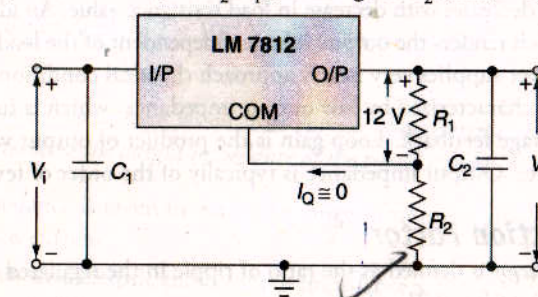

Figure 14.44 Example 14.16.
- Figure 14.44 shows the basic circuit configuration. The output voltage  $V_o$  in this case is given by